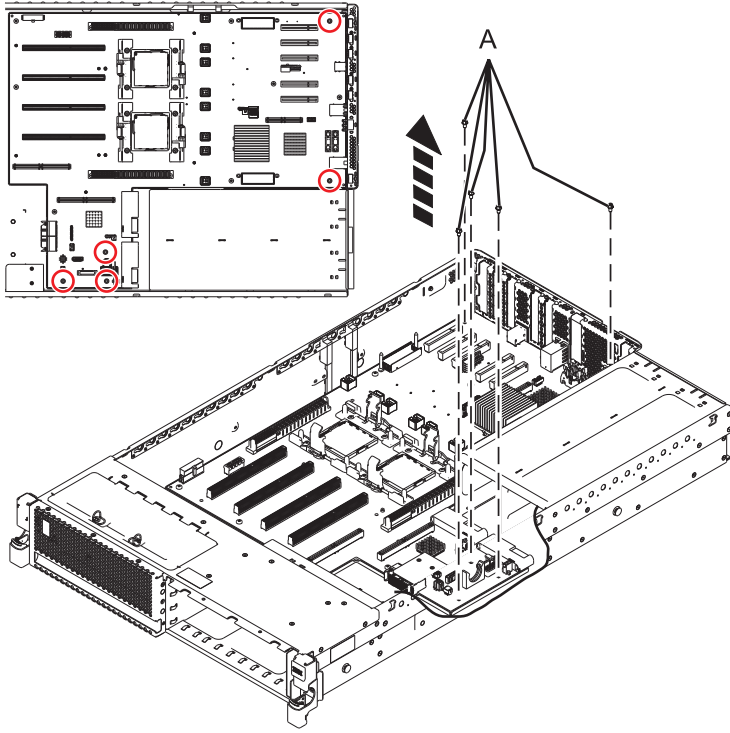
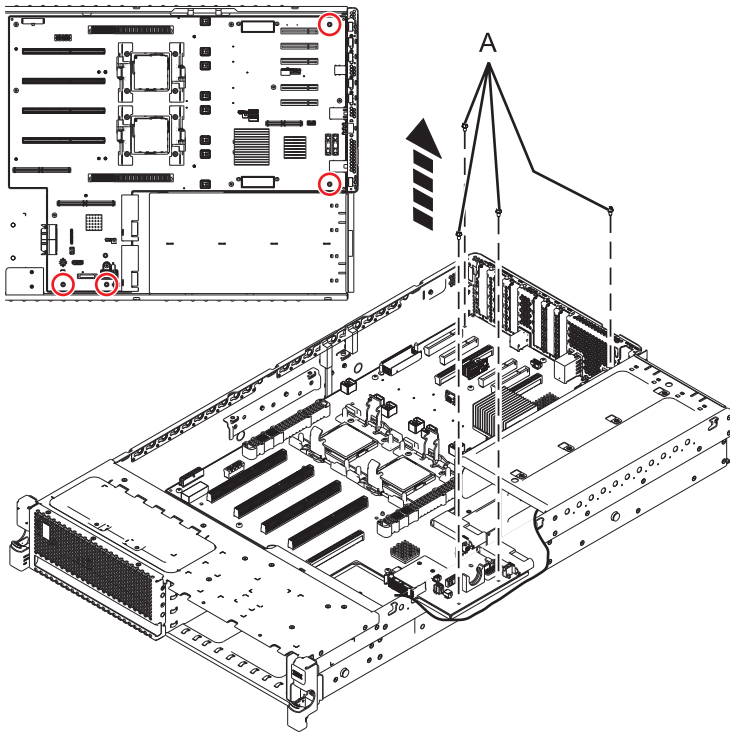

Figure 9. Removing the system backplane (five screws for 8231-E2B)
Figure 10. Removing the system backplane (four screws for 8231-E1C, 8231-E1D, 8231-E2C, 8231-E2D, or 8268-E1D)
- a. Remove the screws (A). See Figure 9 on page 13 or Figure 10 on page 13.